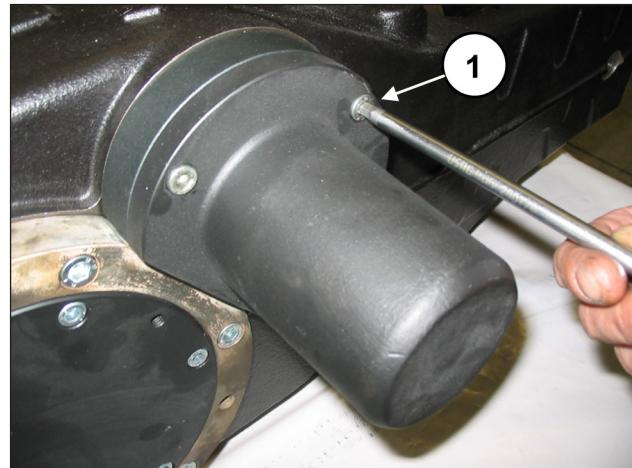

Fig. 8
Undo the fixing screws of the shaft end cover (pos. ①, Fig. 8) and remove the cover from the PTO shaft.